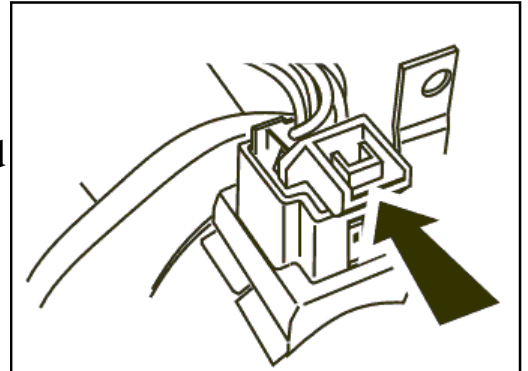

Figure 38. Wiring connector removal
7. Remove the wiring plug from the top of the motorised head. To do this push the tab in the top of the connector and lift the connector clear of the head. Always hold the connector body when removing. Never pull on the wires (See figure 38).